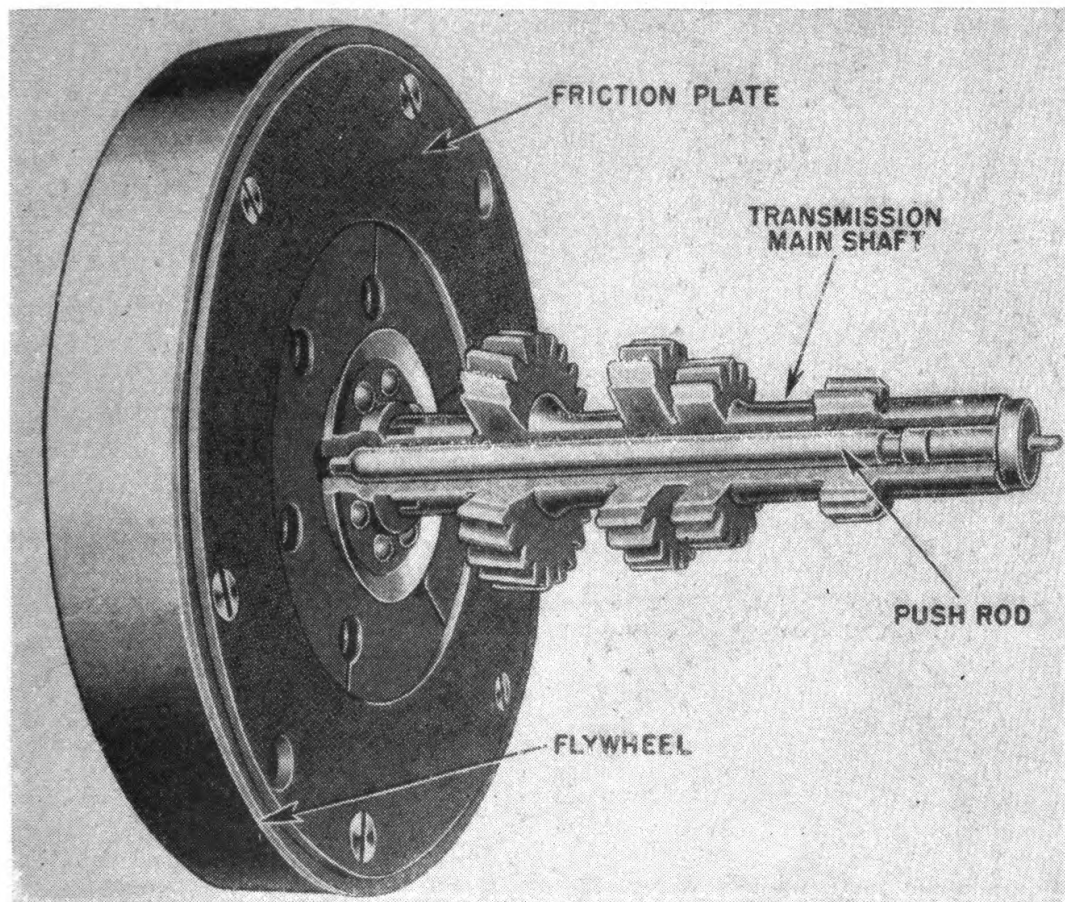

FIGURE 48.—Clutch-release mechanism on shaft-driven Harley-Davidson.
*b.* Figure 48 shows how the clutch on the Harley-Davidson is released. The small push rod in the center of the hollow transmission main shaft is pushed inward by linkage whenever the clutch-release lever on the handle bar is applied. The push rod then forces the backplate against the coil springs, freeing the friction plate.